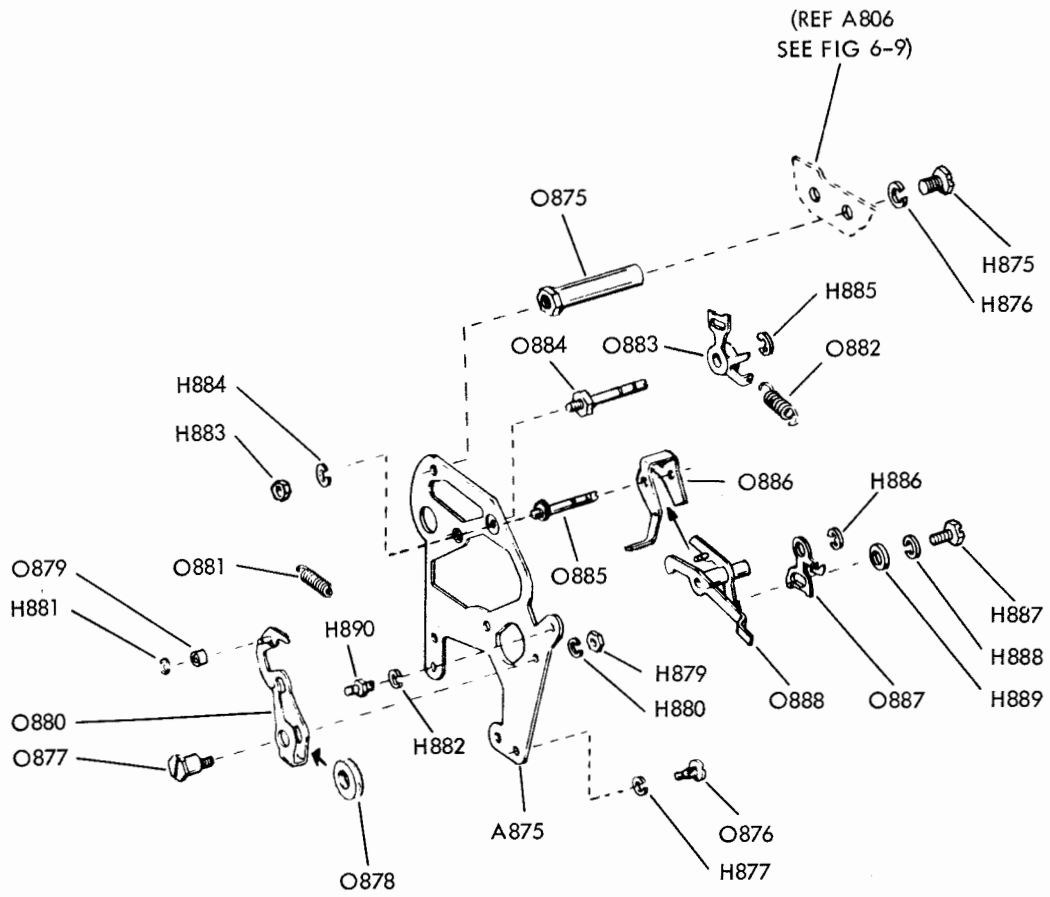
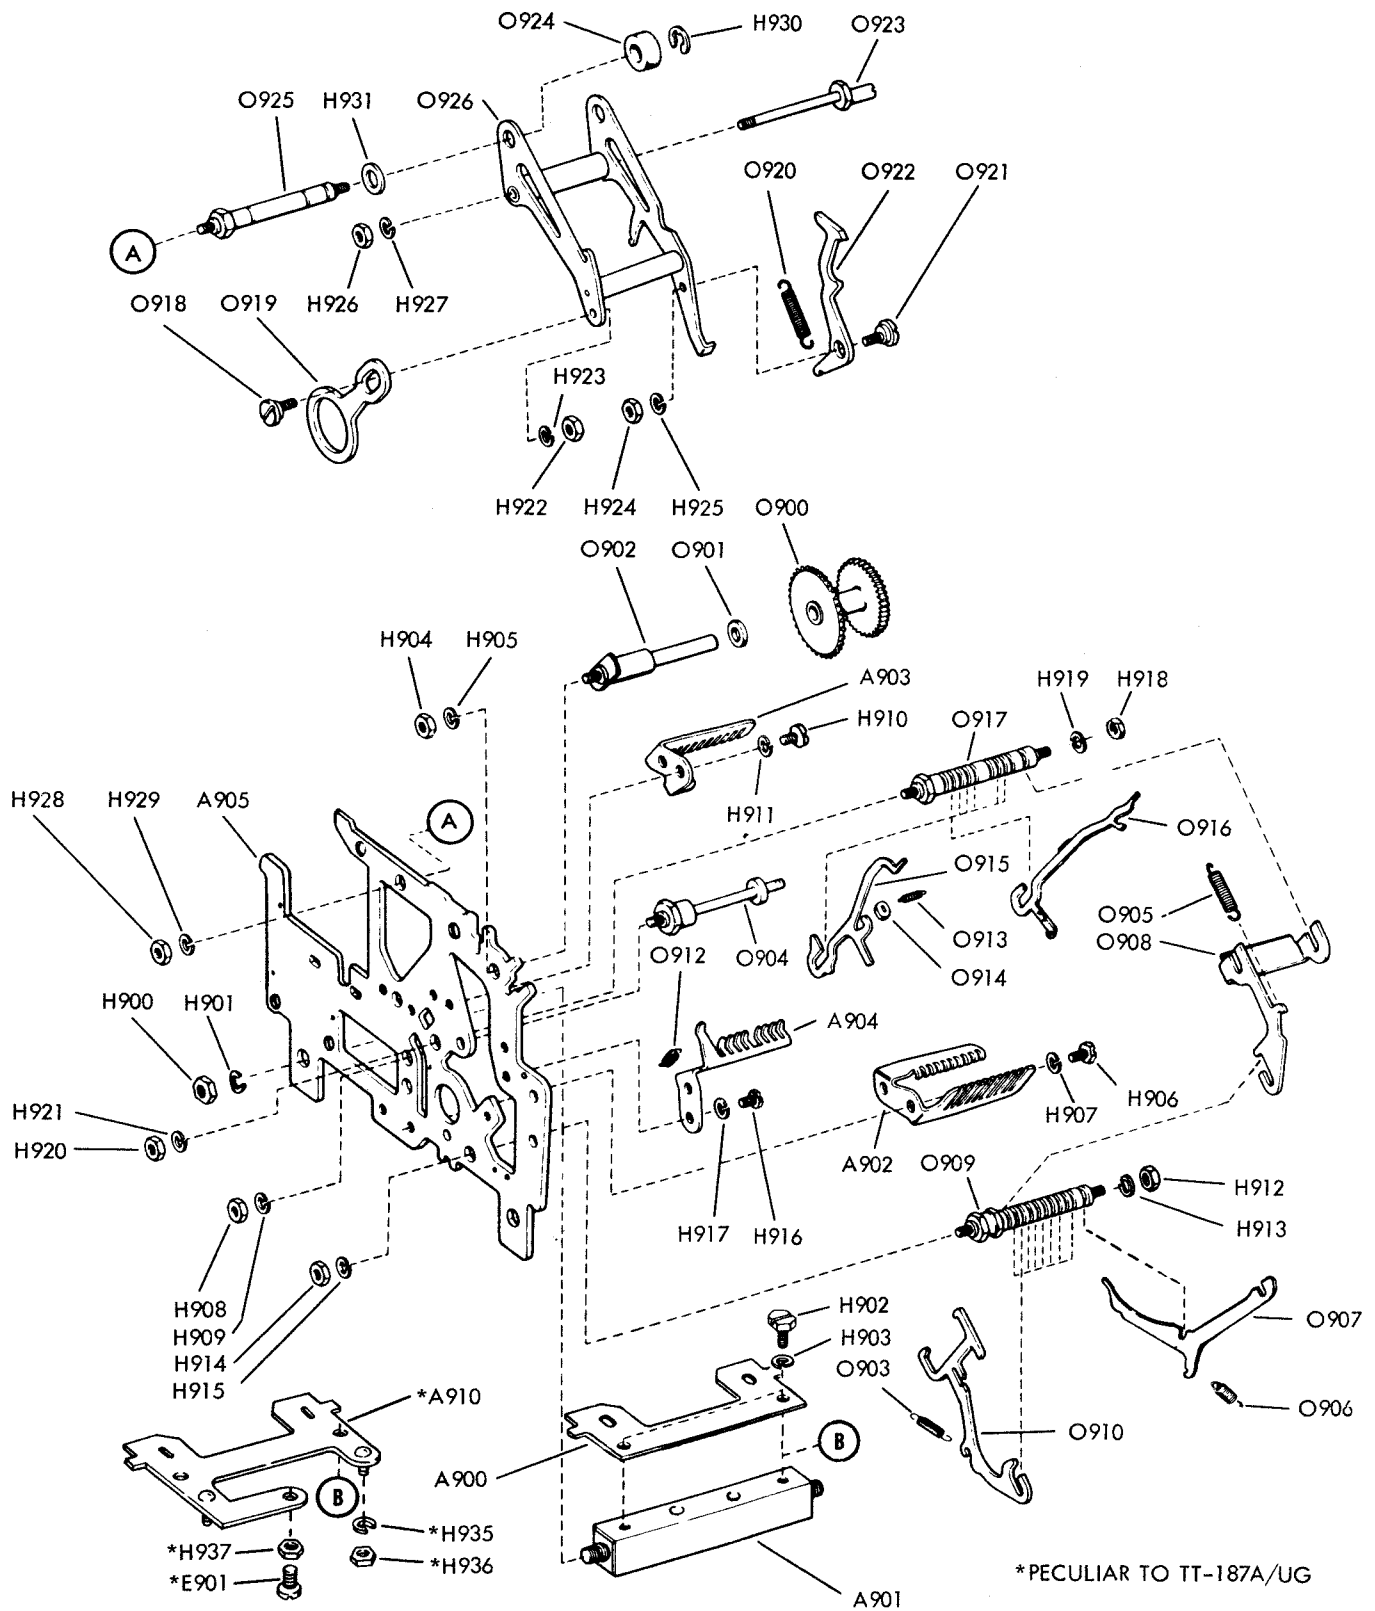
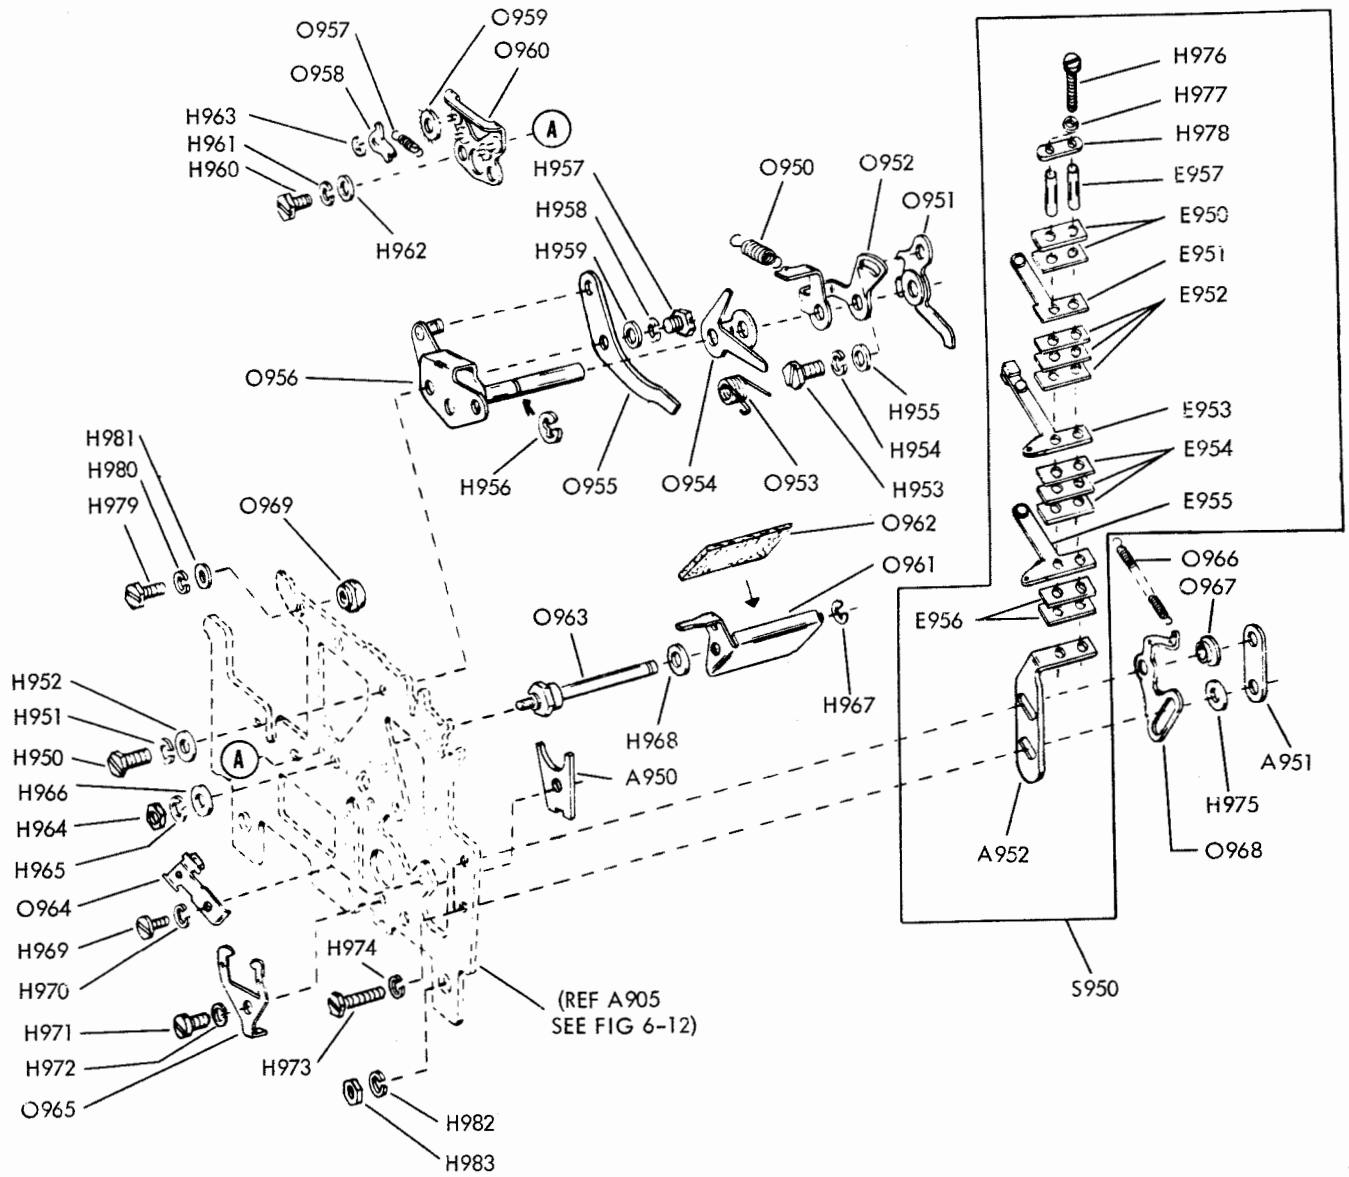

Figure 6-11. Distributor-Transmitter, Center Plate Mechanism
Figure 6-12. Distributor-Transmitter, Front Plate Mechanism
Figure 6-13. Distributor-Transmitter, Front Plate Mechanism
(a) Remove two nuts and lock washers H815 and H816. Remove screw and lock washer H875 and H876 (figure 6-11). Pull the rear plate assembly from the distributor-transmitter to the extent permitted by leads to the magnets and the start-stop tight tape switch.
(d) To reassemble, reverse the procedure used in disassembly. The slotted arm of bail O806 (figure 6-82) must engage eccentric O923 (figure 6-12).
(5) CENTER PLATE MECHANISM. (See figure 6-11.) — Remove the rear plate assembly (paragraph 6-3d(4)).
(a) Disconnect clutch latch spring O907 (figure 6-12).
(b) Remove spacer O875 (figure 6-11) and nut and lock washer H912 and H913 (figure 6-12). Remove the center plate mechanism.
(c) Disassembly is as shown in figure 6-11.
(a) Remove screw and lock washer H971 and H972 to remove bearing retainer A950 (figure 6-13). Rotate the shaft assembly to clear the cams, and withdraw the shaft from the rear of the distributor-transmitter.
(8) FRONT PLATE MECHANISM. (See figures 6-12 and 6-13.) — Remove the rear plate assembly, center plate mechanism, main shaft and contact box (paragraphs 6-3d(3) through (7)). The remaining mechanisms in the distributor-transmitter are associated with the front plate A1005 (figure 6-12) and are disassembled as shown in figures 6-12 and 6-13. To disconnect leads to the tape-out switch, remove screws and lock washers H973 and H974 and nut plate A951 to detach the switch bracket A952, adjusting bracket O968, bushing O967 and spacer A975, all of which are part of the switch assembly S950 (figure 6-13). Removal of the leads requires disassembly of the switch as indicated in that figure. To reassemble the front plate mechanism, reverse the procedure followed in disassembly.
(9) To reassemble the distributor-transmitter, reverse the procedure used in removing the component mechanisms. Be sure the tip of the tape-out sensing pin O916 (figure 6-12) rides through the
aperture for it in the tape lid and that the upper extension of the pin rides under the swinger E953 of switch S950 (figure 6-13). The sensing pins, O915 (figure 6-85), should be centered in their slots on the top plate A704. If the clutch lever is tripped, the pins will extend in above the installed position of the tape guide plate and cover plate, and assembly will be easier than if clutch is latched. (See figures 6-21 and 6-22.)